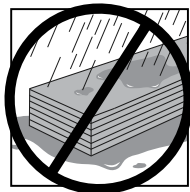

Fig. 1
- Protect from extreme weather conditions, including excessive exposure to water and temperatures exceeding 150 degrees Fahrenheit. Store beams under roof or under a porous cover that will shed water while allowing moisture to escape. (Fig. 1)